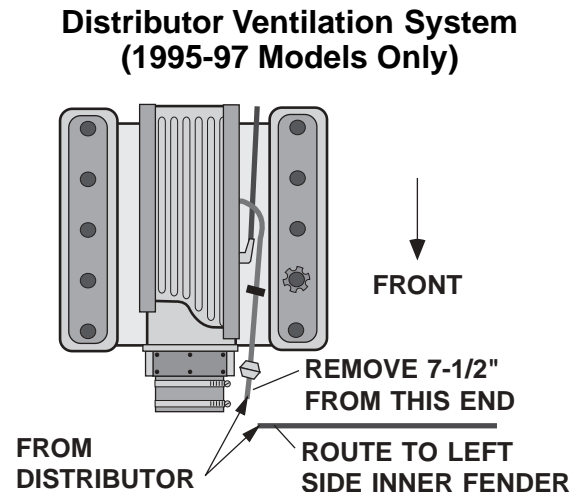

Figure: 8-a
- B. On 1995-97 models only, separate the distributor ventilation hoses from the black flex loom. Remove the vacuum hose from the blue one-way valve (next to the throttle body) and cut approximately 7-1/2" off of the end. Run the line back up in between the water pump and the upper main bracket to the blue valve and reconnect. Temporarily leave the remaining 5/32" fresh air hose down below. (See *Figure 8-a.*)